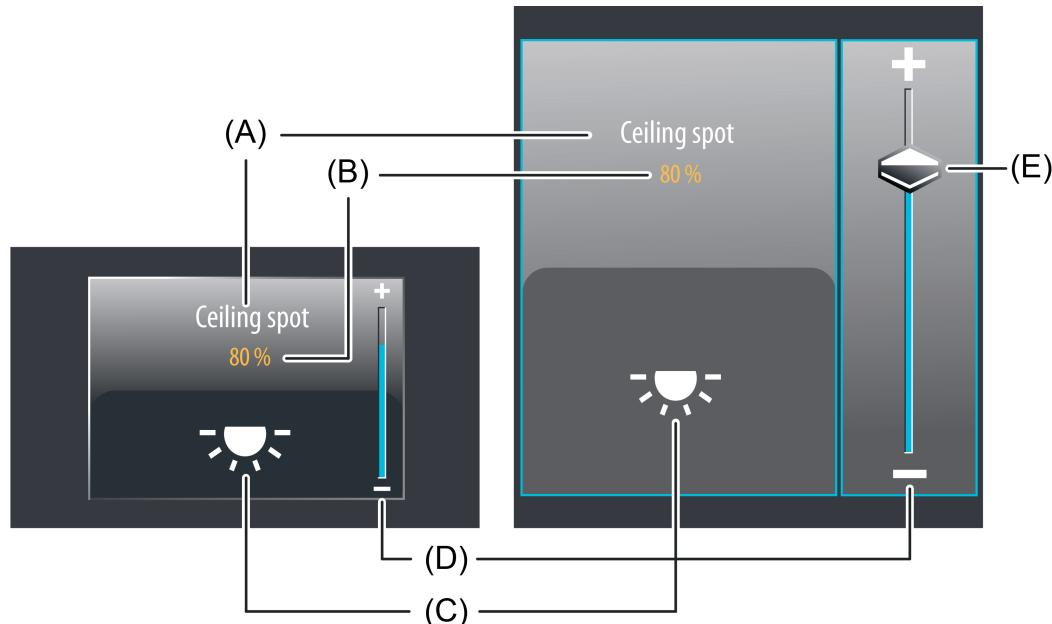

Figure 25: Example of an operating and display element of the function "Dimming brightness value"
In the selection operation, a slider (E) is available in addition to the sensor surfaces + or - for operating switching or continuous dimming processes (figure 25). It is possible to specify brightness values directly with graphic support using the slider. For this purpose, the slider can be set by finger pressure or continuously moved. To set the slider, you must touch the slider area at the required brightness level with your finger. The slider then jumps immediately to the required position. At the same time, the device transmits the brightness value specified thus as a presetting to the bus.
The display area contains different display elements (figure 25) that are influenced by parameters. A name can be assigned to each KNX function in the configuration software (A). This text name is centred in the display element for display whereby controllable KNX functions are identified for the user (e.g. "ceiling spot"). In addition, a status value (B) can be displayed below the name, which either displays brightness values in plain text ("0...100 %") depending on the object value of the dimming value feedback of the dimmer actuator addressed or alternatively directly depending on the preset dimming value of the operating element. After a device reset, the display shows "---%" until a feedback object value of the status text is received or a brightness value is specified.